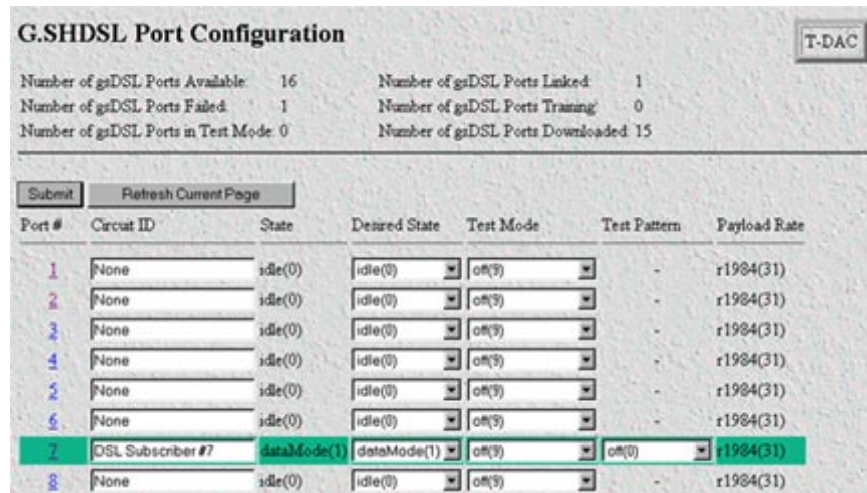

Figure 33. G.SHDSL Port Configuration window
1. On the 3096RC Configuration Menu, click the DSL hyperlink to display the G.SHDSL Port Configuration page (see figure 33). (Optional: Using your mnemonic naming convention scheme, enter a name for this connection in the “Circuit ID” field to the right of the Port # you wish to activate).